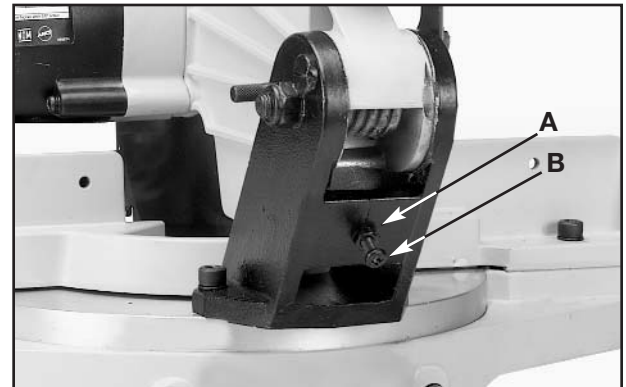

Fig. 21
1. The downward travel of the saw blade should be limited to prevent the saw blade from contacting any metal surfaces of the machine. This adjustment is made by loosening lock nut (A) Fig. 21 and turning the adjusting screw (B) in or out.
3. Tighten lock nut (A).